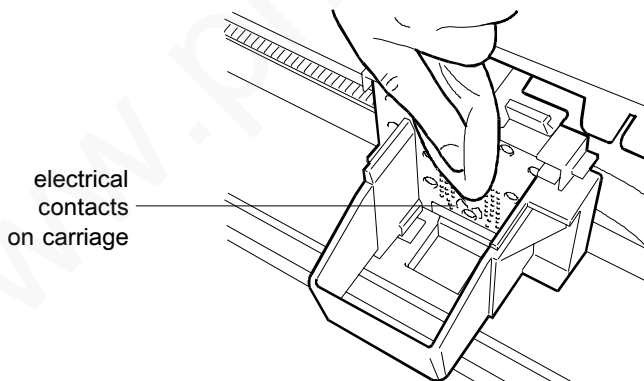

Fig. 7-2
- 3) Clean also the electrical contacts on the print carriage using a dry soft cloth (see figure 7-2).